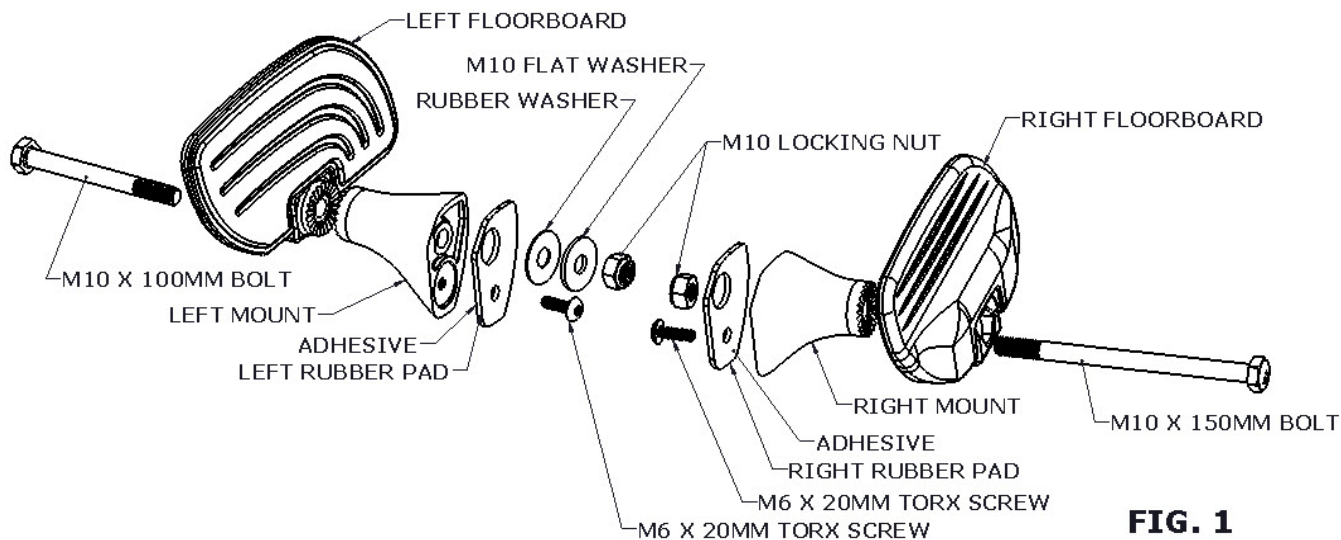

FIG. 1
- TAKE THE LEFT RUBBER PAD AND REMOVE THE MASKING. PLACE THE LEFT RUBBER PAD ON THE BACK OF THE LEFT MOUNT AS SHOWN IN THE FIGURE 1 BELOW.
- TAKE THE RIGHT RUBBER PAD AND REMOVE THE MASKING. PLACE THE RIGHT RUBBER PAD ON THE BACK OF THE RIGHT MOUNT AS SHOWN IN THE FIGURE 1 BELOW.